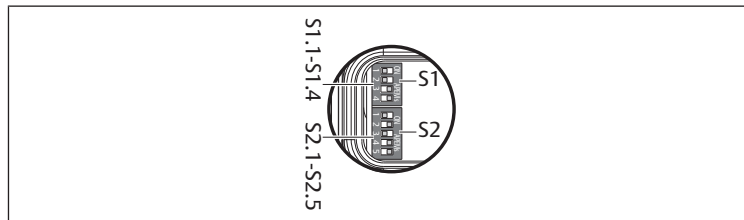

Fig. 5: S2 DIP switch
2. Move the S2.5 DIP switch to the desired position. See → Fig. 5.